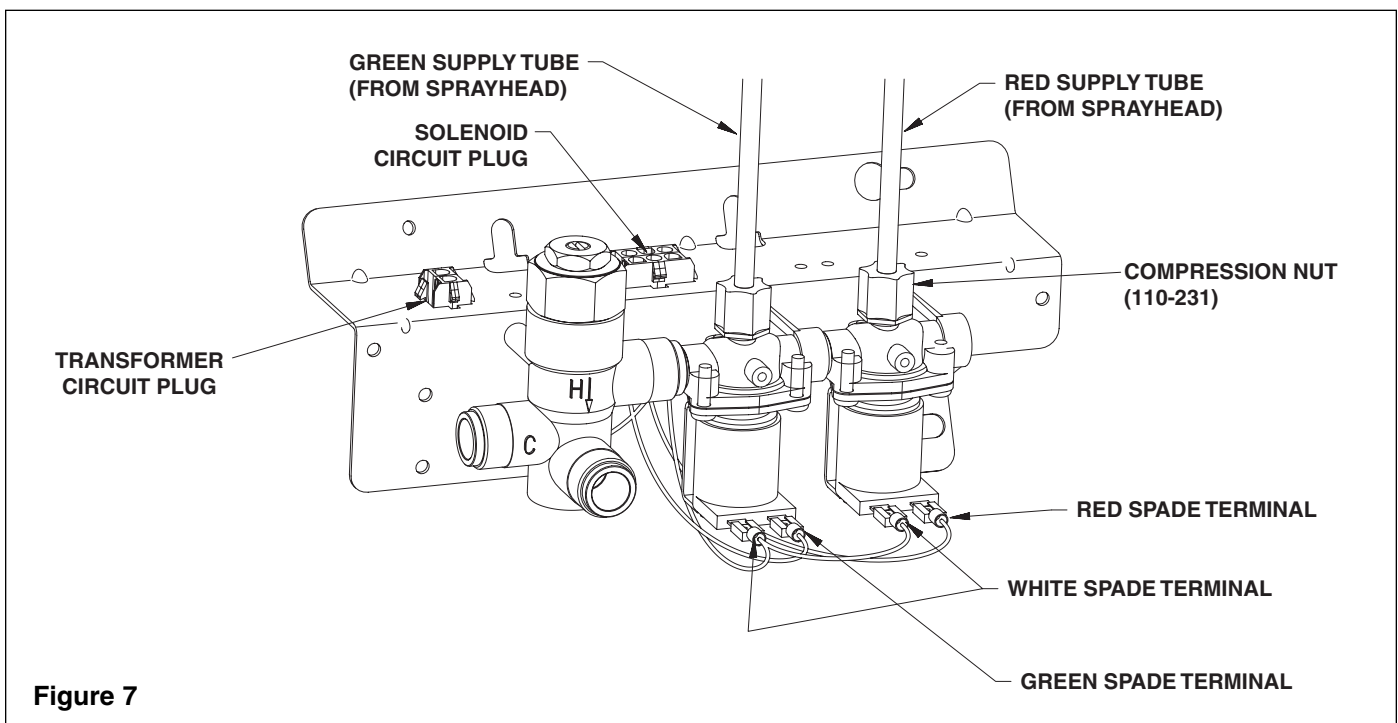

Figure 7
3. Insert the two sprayhead supply tubes into the two solenoid tube connectors by loosening the compression nut and firmly pushing the tubing into the tube connector until the tubes are fully seated, then re-tighten the compression nut (hand-tight and then two full turns with a wrench) (see Figure 7).